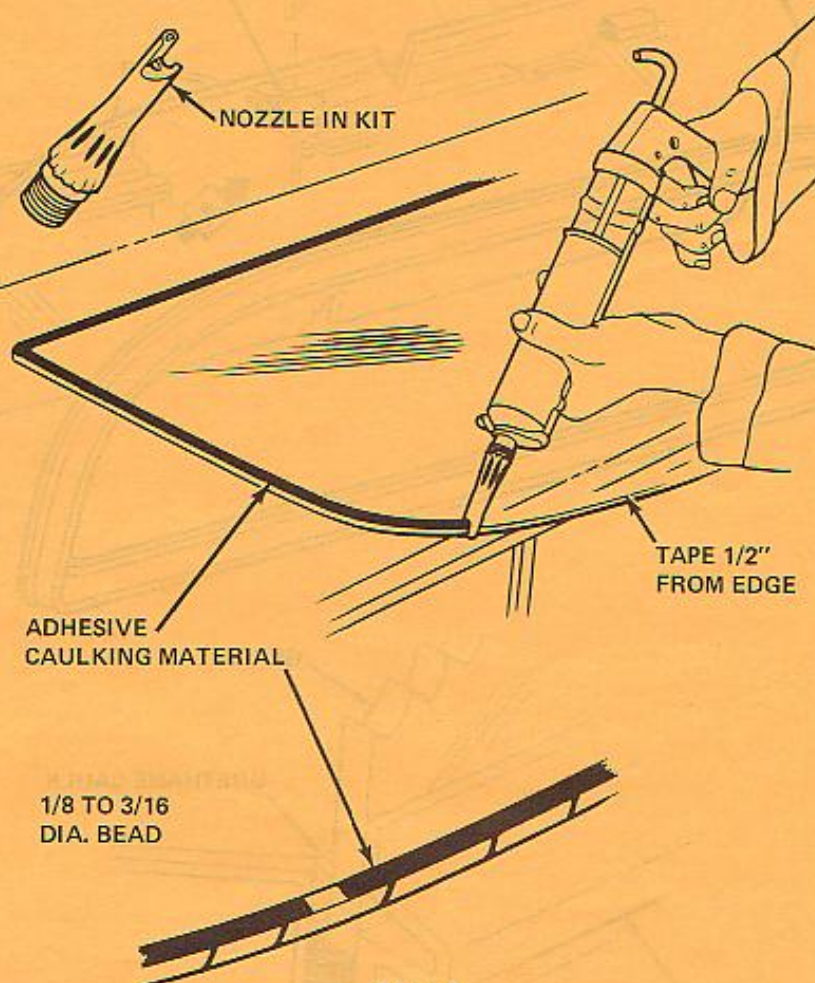

Figure 1
1. Apply a strip of masking tape around outer surface of glass 1/2 inch inboard of outer edge (figure 1). Removal of tape after glass installation will aid in cleanup and give a smooth, even edge of adhesive material.
10. Apply smooth continuous bead of adhesive material around entire outside perimeter of glass. Material should be 1/8" to 3/16" in diameter (refer to figure 1).